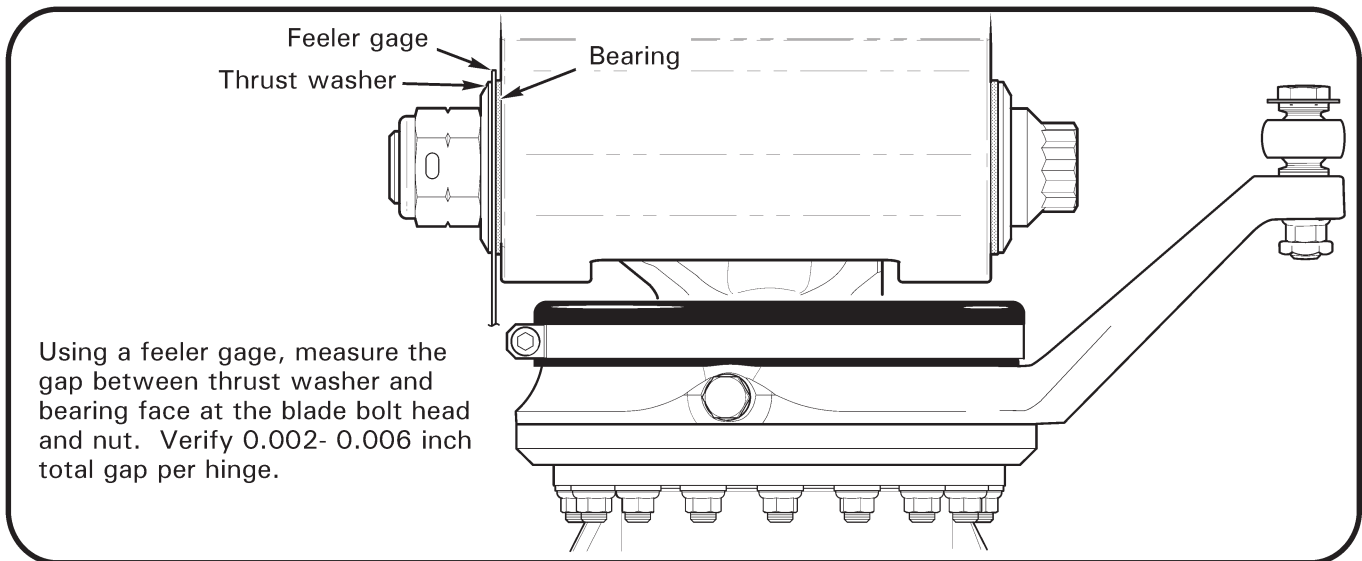

FIGURE 26-8 MEASURING CONING HINGE AXIAL GAP
5. Adjust shim stack combination as required to meet coning hinge axial gap requirement per Figure 26-8 and to maintain teeter friction requirement as follows: It must be possible to manually cone each blade without teetering the hub when blades are held up off the droop stops and lifted at tip.
5. Adjust journal combination as required to meet coning hinge axial gap requirement per Figure 26-8 and to maintain teeter friction requirement as follows: It must be possible to manually cone each blade without teetering the hub when blades are held up off the droop stops and lifted at tip.
- a. B370-1 Hub: Adjust coning hinge friction by changing trailing-edge shim stack thickness in small increments; reducing shim stack thickness increases friction, increasing shim stack thickness reduces friction. Coning hinge friction is zero when there is a measurable axial gap per Figure 26-8. Install shims, thrust washer, and nut.
- b. A154-1 Hub: Adjust coning hinge friction by changing trailing-edge journal length in small increments; using a shorter journal increases friction, using a longer journal reduces friction. Coning hinge friction is zero when there is a measurable axial gap per Figure 26-8. Install journal, thrust washer, and nut.